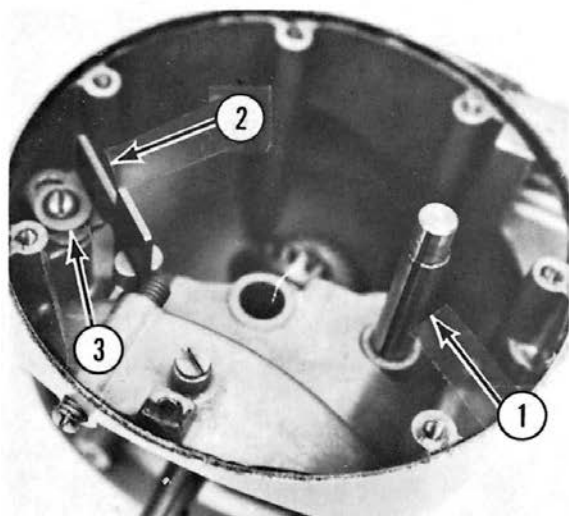
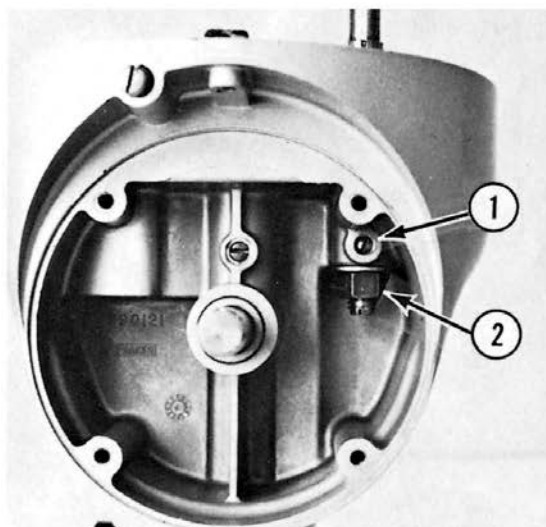

Fig. 3-17
Fig. 3-18
P. The eccentric shaft (1, Fig. 3-17) can be removed, if necessary by loosening the set screw (1, Fig. 3-18) and removing the nut and washer (2, Fig. 3-18).
Q. The tumbler yoke stop (2, Fig. 3-17) can be removed, if necessary, by removing the screw and washer (3, Fig. 3-17).